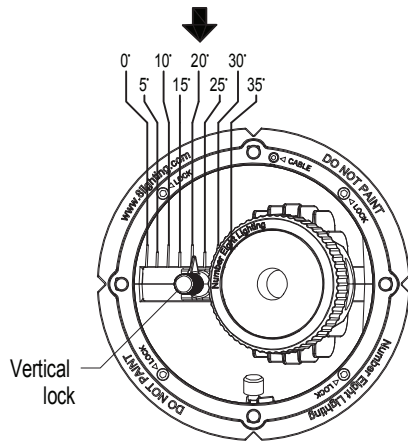

FIG 1.1 Adjust Vertical & Horizontal Aiming Angle
Step 1 Unlock & adjust lamp head to 20° vertical aiming angle for optimal wall wash performance-FIG 1.1.